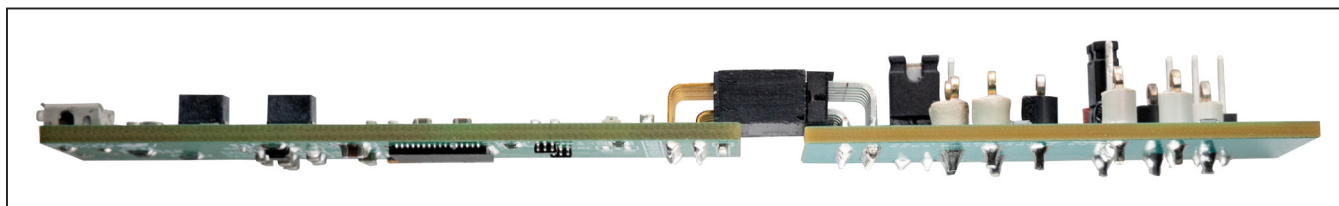

Figure 1. MAX31827 Side View
- 2) Align the connector of the USB2PMB2 with the J1 connector of the MAX31827 EV kit. Figure 1 shows the side view of how the two boards are connected. The USB2PMB2 is on the left and the MAX31827 EV kit is on the right.